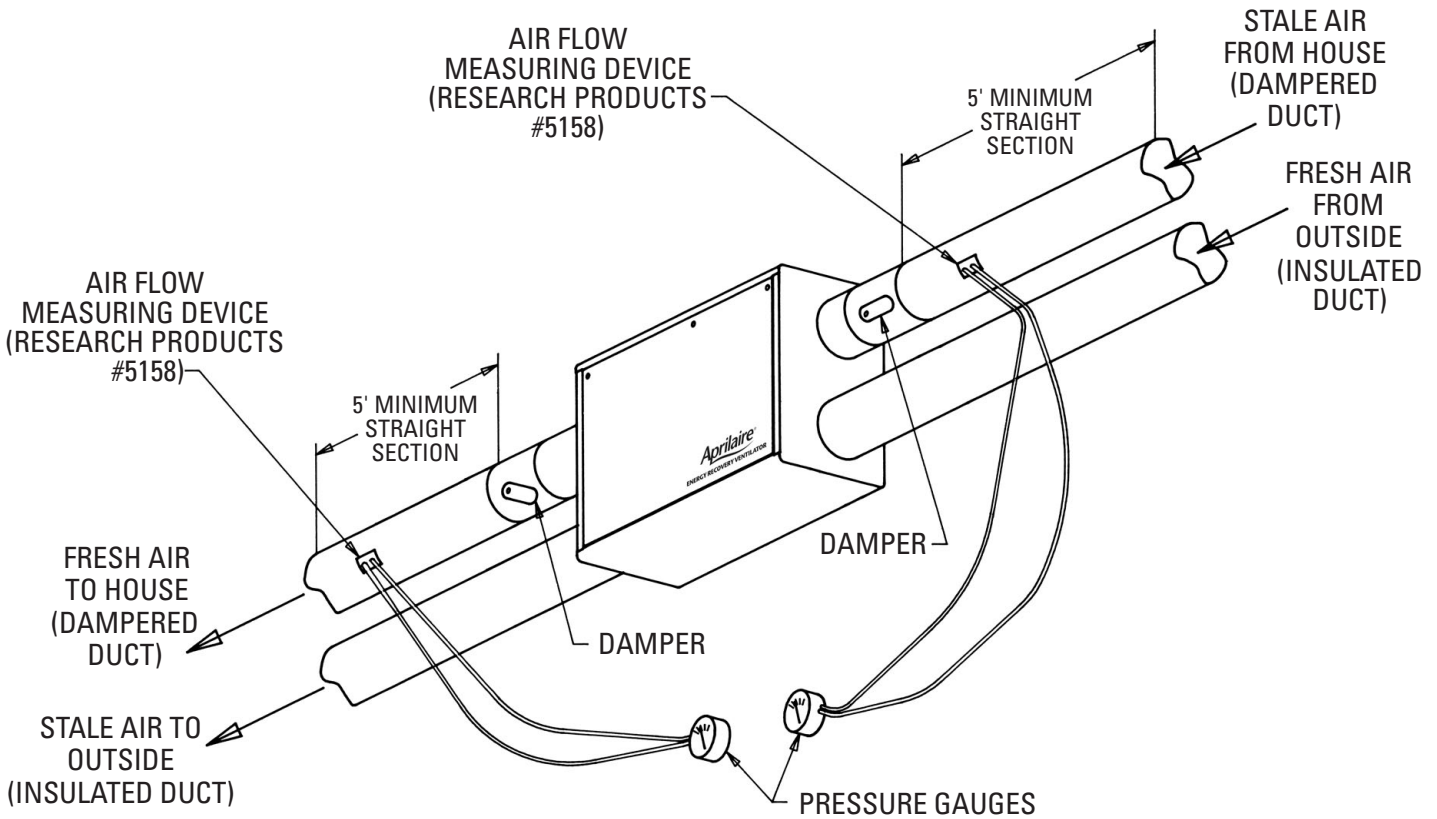

FIGURE 11
- You must plan on temporarily installing two air flow measuring devices, according to Balancing Section instructions. These measuring devices are later removed after the system has been balanced. Please refer to Figure 11, page 16.
- With any blower system, some sound is transferred along the ductwork. A sound absorber at least 6' long consisting of 1" thick rigid fiberglass duct or insulated flexible duct (ATCO series 70 or equivalent) is recommended for maximum absorbing of air movement sounds between the unit and the living space return grille. A balancing damper must be installed in this duct near the Aprilaire® Energy Recovery Ventilator, see Figure 11, page 16. Install an air flow measuring device at least 5' from damper in straight section and then complete the system installation before proceeding to the balancing instructions found on page 15.
- Be sure to install two balancing dampers, see Figure 11, page 16.
1. Be sure that the two dampers are installed correctly as shown in Figure 11.
2. Install the two airflow measuring devices into the duct as shown in Figure 11 and seal with tape. Be sure the airflow arrows are pointed in direction of airflow. To get an accurate airflow measurement, the devices must be in the center of a five foot minimum straight duct section.
4. Connect the tubing from the airflow measuring devices to the pressure gauges as shown in Figure 11. Be sure to connect high pressure tap on the airflow measuring device to the high pressure tap on the pressure gauge. Likewise, connect low to low pressure taps.